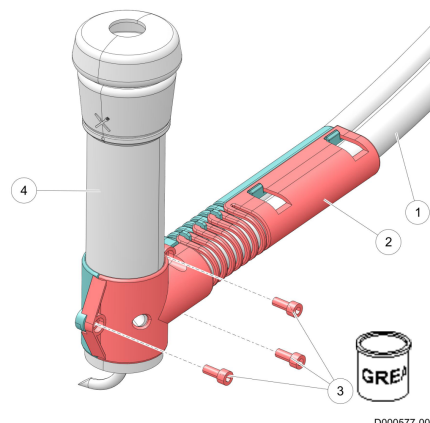

Figure 38. Install the second part of the twin tube cover
6. Install the second (larger) part of the twin tube cover (2) with the bolts to the smaller part of the twin tube cover with a torque of 1.5 Nm (see figure 38 on page 5-19).